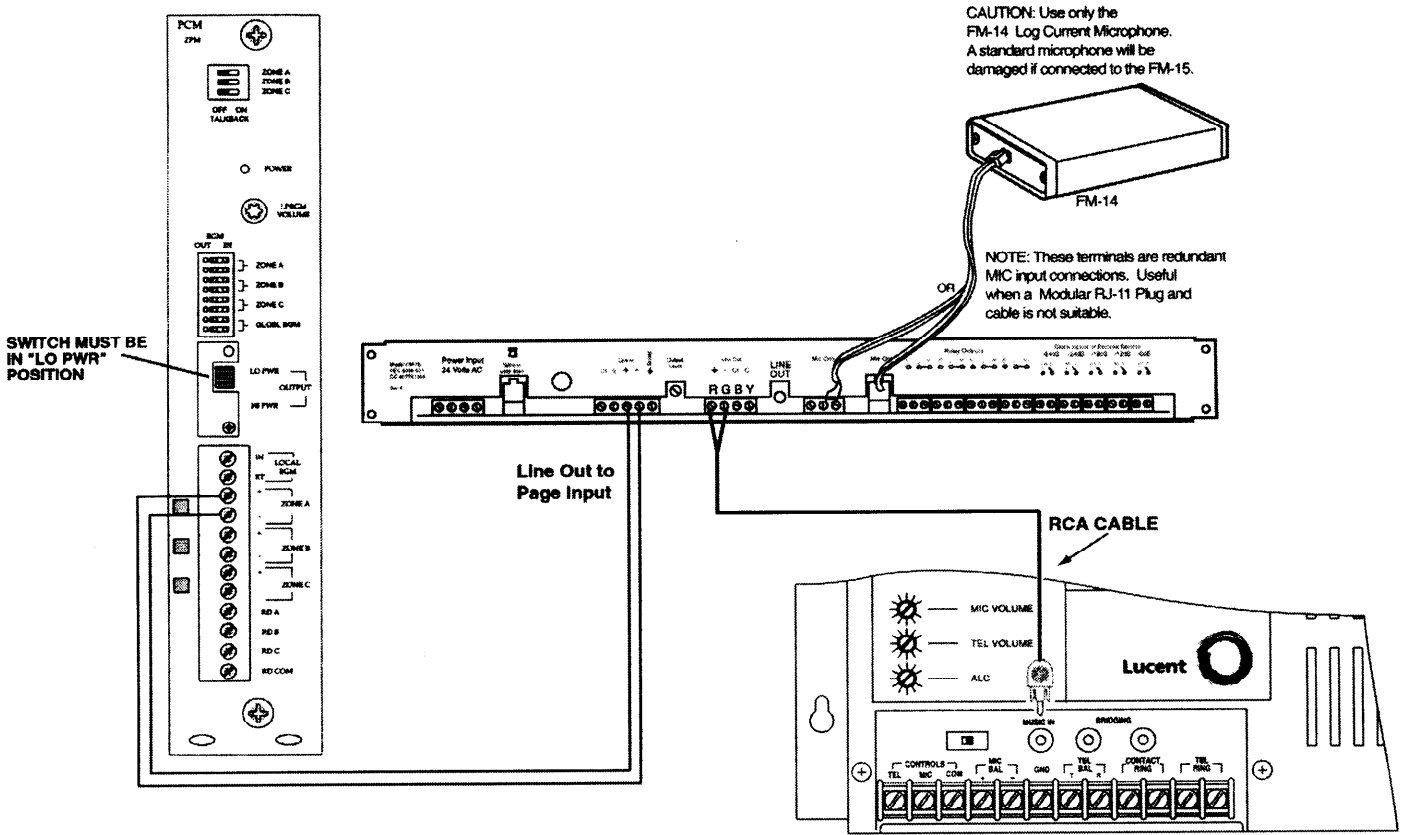

Figure A-3: Typical Application - Connecting to an Ambient Level Controller
- \* To Ambient Level Controller (see Figure A-3 on page 55)